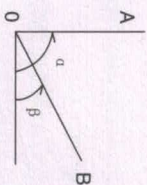

Fig.8
- (1) Sight A with vertical hair, read circle, get angle α .
- (2) Turn instrument to sight B, get angle β .
- (3) $\angle AOB = \alpha - \beta$ (Fig.8)